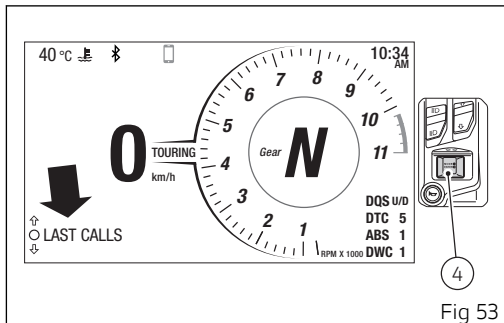
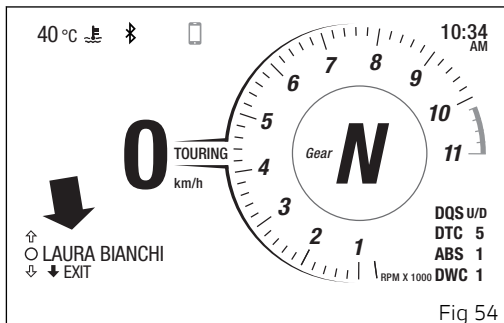

Fig 53
Fig 54
To display the list of calls, press button (4) (Fig 53). When entering this function, the display shows message "WAIT.." for a few seconds, then shows the name or phone number from the last call (Fig 54).